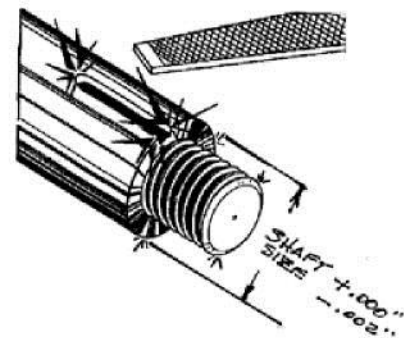

Figure 42
1. Check shaft/sleeve, it should be seal size +0.000" to -0.002" (0mm to 0.05mm) (Figure 42).
4. Check all keyways, threads, and shoulders for sharp edges, which could damage elastomers. Round edges or tape over before installation (Figure 42).